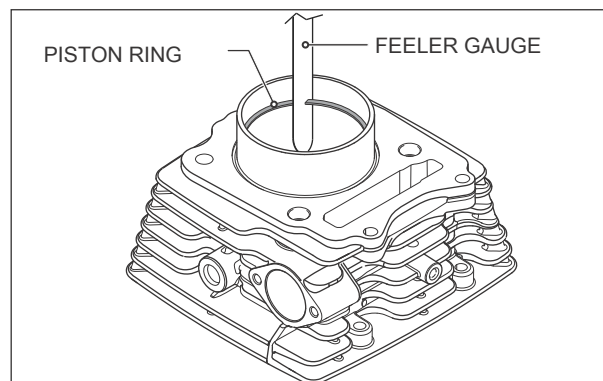

Fig. 3.94
- Install the ring in the cylinder block, using the piston, push the ring into the cylinder block bore at 20 mm from the bottom. This will make the ring to seat squarely in the cylinder block. Using a feeler gauge measure the close end gap. (Fig. 3.94)